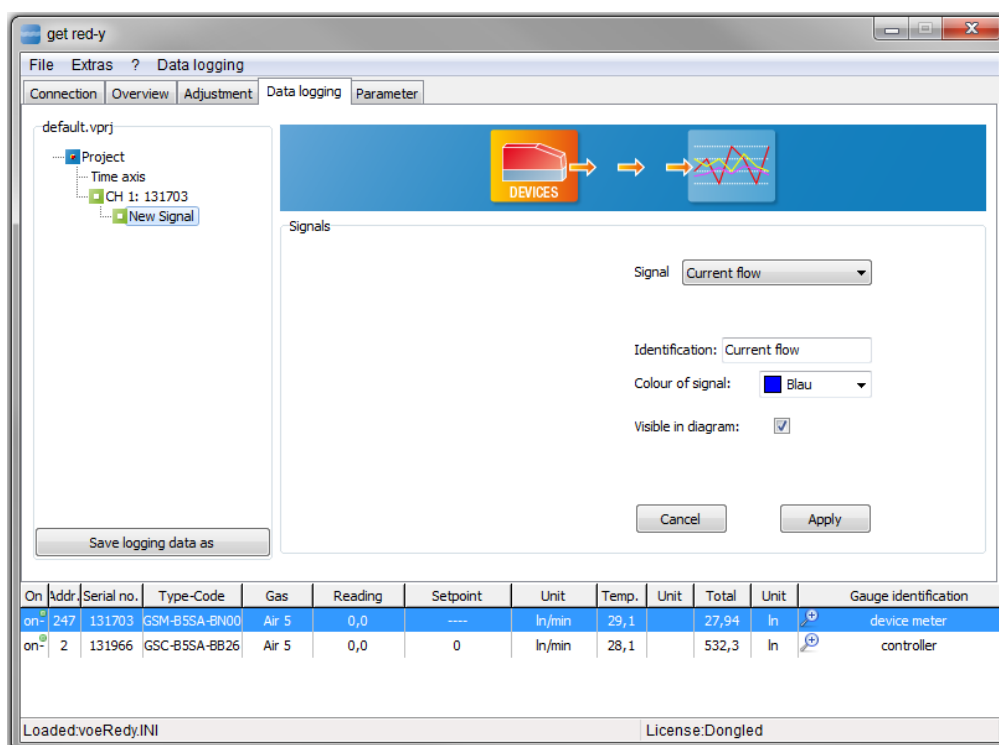

Figure 41: Signals can be added to Channel 131966
- A. Available Channels:** All the available devices (Channels) are listed here. Double-click the serial number or click the [Accept] button to display a new window as shown in Figure 41.